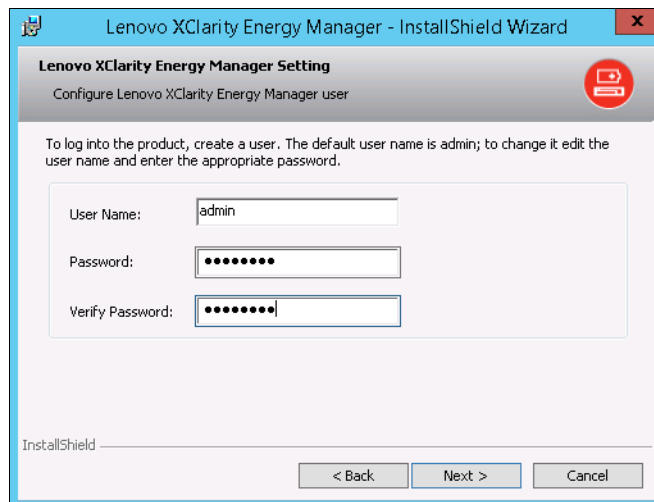

Figure 7-30 Set user name and password
9. In Figure 7-30, enter a username and password. These are the credentials that you will need to access the web interface of Energy Manager. From the web interface you can create and manage the data center hierarchy. Refer to 7.4.5, “Setting up Energy Manager” on page 249 for information on the data center hierarchy.